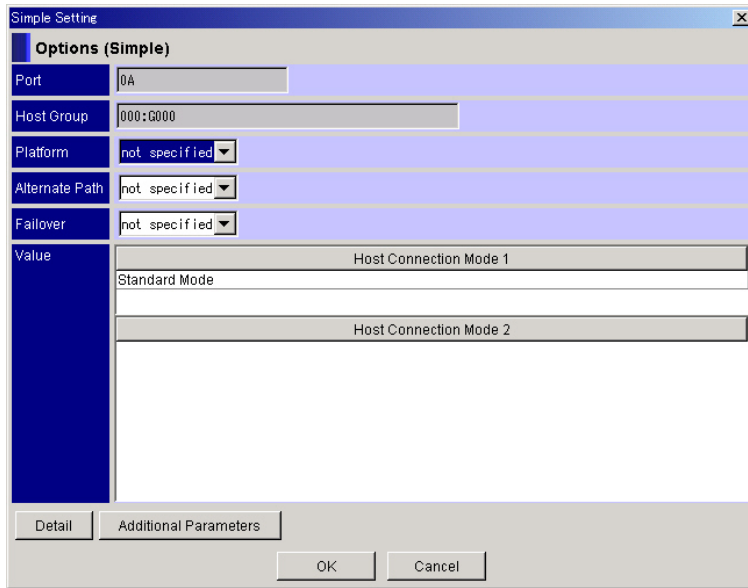

Figure 7-10 Options (Simple) Dialog Box
- Click the **Additional Parameters** button. The Additional Parameters Property is opened. Select the **Item** as occasion demands, and click the **OK** button. (The screen returns to Figure 7-10)
Click the **Detail** button as needed. Select **Host Connection Mode 1** and **Host Connection Mode 2**, and click the **OK** button. (The screen returns to Figure 7-10.)